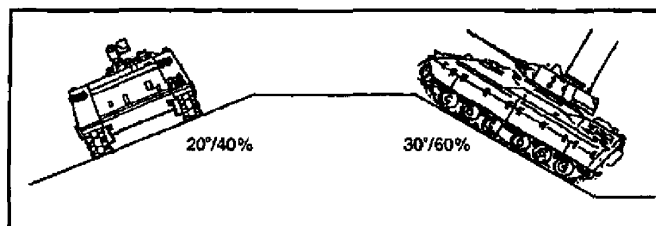

Figure 071-329-1030-2. Climbing slope and side slope capabilities
(2) Military vehicles are designed to climb 60-percent (30-degree) slopes if the surface is dry and firm. If gravel, vegetation, or mud is on the slope, the practical slope-climbing capability is about 40 percent (20 degrees) (figure 071-329-1030-2).
(b) The side slope is more important than the climbing slope. A 40-percent side slope is the maximum in good weather (figure 071-329-1030-2). Traverse a side slope slowly and without turning. Rocks, stumps, or sharp turns can cause a downhill track to be thrown under the vehicle, which is a major recovery task.